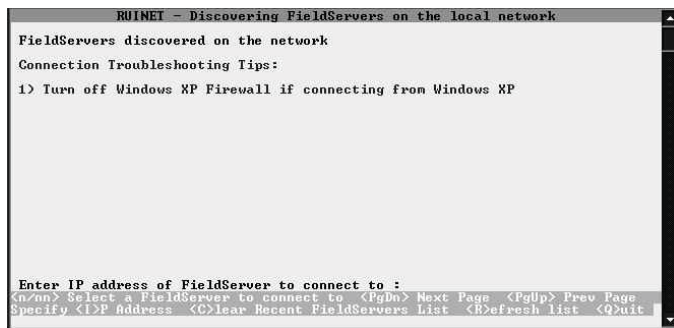

Figure 9: RUINET PT-Link Specify IP Address
2.) If RUINET is in the desktop directory (if it isn't, locate its directory), double-click on RUINET, and the RUINET program should run. Initially, you might see the screen below (**Figure 9**). Type  for Specify IP Address and the message "Enter IP Address of the Field Server to Connect to" will appear on the screen.